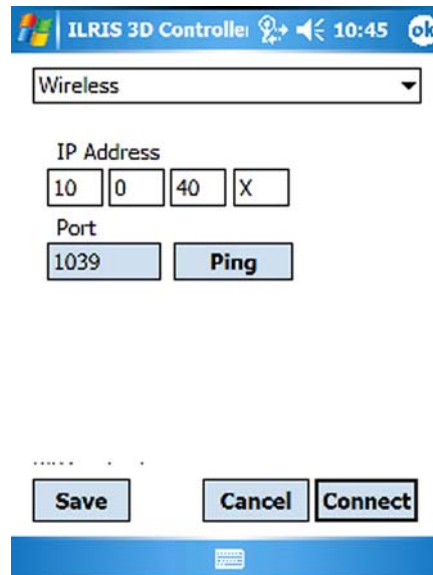

Figure 41: Selecting the Wireless IP address
3. From the drop-down menu, select **Wireless** (Figure 41).